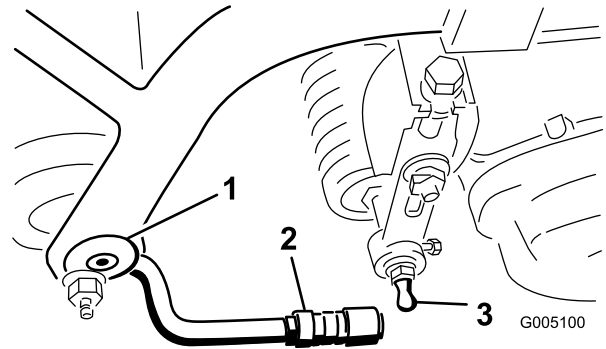

Figure 7
2. Mount a ball stud to each end of the front roller on the cutting units (Figure 7).
4. Slide the sleeve back on the ball joint and rotate the pull arm down so the socket fits over the ball stud. Release the sleeve so it slides over the stud and locks the assemblies together (Figure 7).